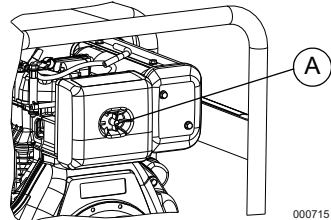

Figure 4-4. Air Filter Assembly
1. See **Figure 4-4**. Turn knob (A) and remove air filter cover.